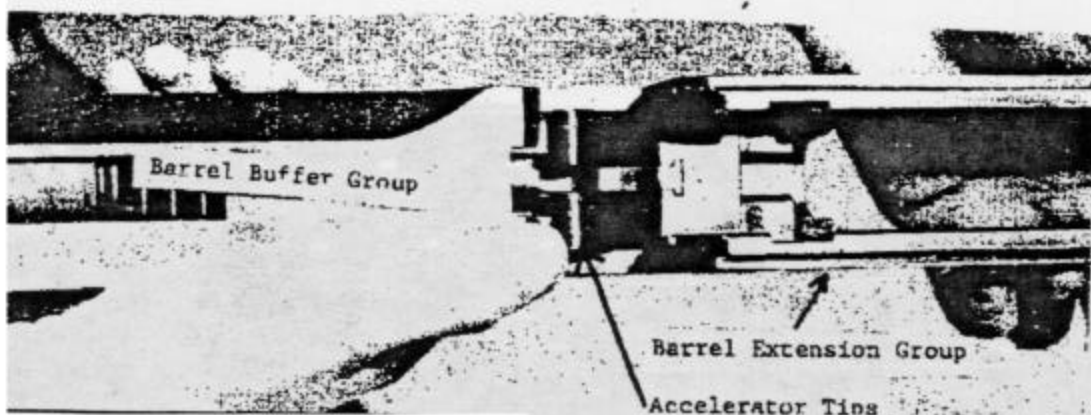

Figure 4. Barrel buffer and extension
- (1) Join the two groups together. (See Figure 4.)
- (2) Place the groups in the receiver.
- (3) Push the groups forward until the buffer body lock snaps in place.
- (4) When the parts are properly locked in place, the barrel buffer tube should protrude about 1 1/8 inches from the rear of the barrel buffer body group.